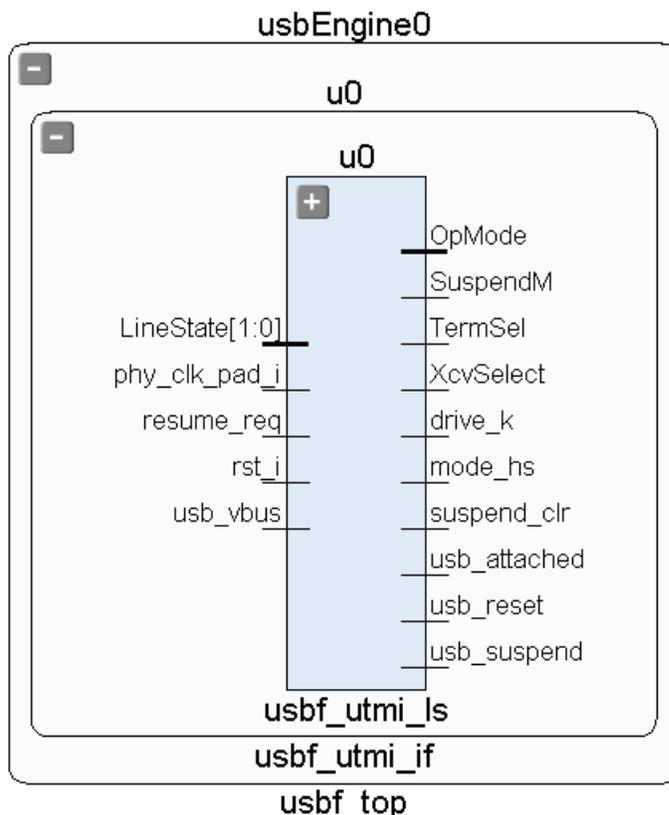

Figure 4-49: Viewing Hierarchy in the Schematic
The Schematic view displays the selected logic instances or nets. If only one instance is selected, a schematic symbol for that module is displayed as shown in Figure 4-49, page 148.
- Expand all logic inside selected instance:** Expands a hierarchical module from the symbol view to the logic view. Hierarchical modules can also be expanded directly from the schematic by clicking on the '+' icon on the schematic symbol, as shown in as shown in Figure 4-49.
- Collapse all logic inside selected instance:** Collapses a hierarchical module from the logic view to the symbol view. An expanded hierarchical block can also be collapsed directly from the schematic by clicking on the '-' icon on the hierarchical block, as shown in Figure 4-49.
- Toggle autohide pins for selected instance:** Toggle the pin display on hierarchical modules. Higher levels of the hierarchy display as concentric rectangles without pins, when a Schematic view is generated, as shown in Figure 4-49. In most cases, the lack of pins makes the Schematic view more readable, however, you can display the pins for selected instances as needed.